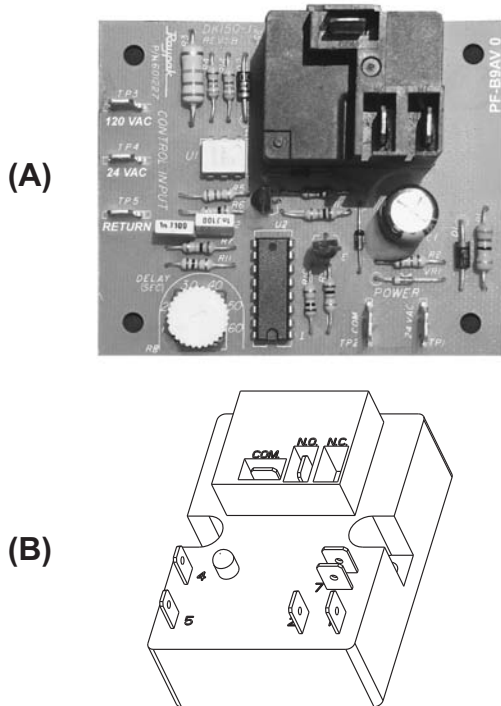

Fig. 40: Economaster Time Delay Relays (TDR)
There are two versions of the Pump Time Delay. The first is the Economaster II. It is an electronic device that allows the operator to set a variable time (3 to 10 minutes) for the pump to run after the boiler shuts off. See Fig. 40 (A). The time is factory-set at 7 minutes and it can be re-adjusted in the field.
The second version is a fully enclosed solid state TDR with a white jumper that selects one of two time delays. See Fig. 40 (B). If the jumper is on pins 6 and 7 (default) the delay time is 5 minutes. If the jumper is not on pins 6 and 7, the time delay is 10 minutes.